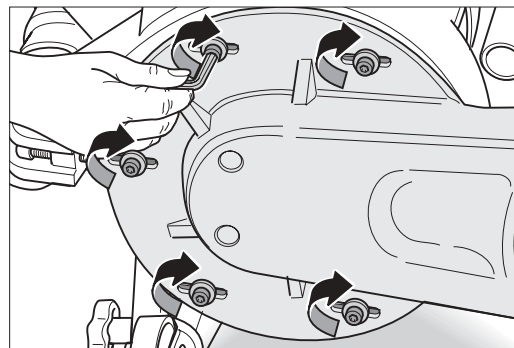

Fig. 72: Install the five screw including washers for fastening the attachment to the fan housing. Do not tighten the screws firmly!
- 15 To fasten the attachment to the fan housing, install the five hexagon socket screws including the respective washers (Fig. 72). Do not tighten the screws!